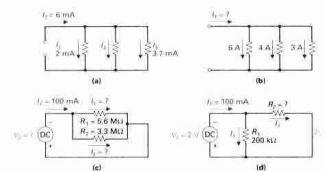

FIGURE 8-31 Calculate the Unknown.
- Calculate the following in Figure 8-31: